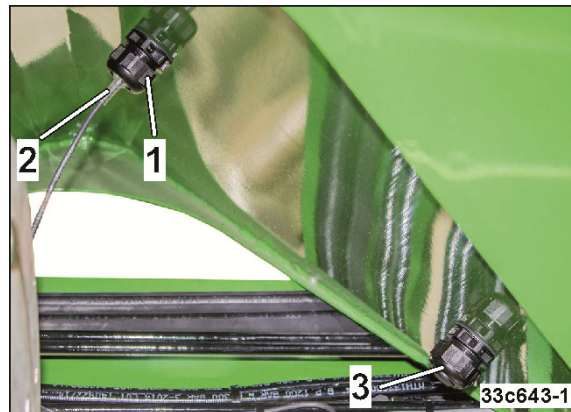

Fig. 147
2. Release the nut (Fig. 147/1).
3. Detach the fill level sensor (Fig. 147/2) and insert it in the intended holder.
5. Tighten up the nut (Fig. 147/1).
The close the opening, insert the dummy (Fig. 147/3) into the holder and clamp it firmly.